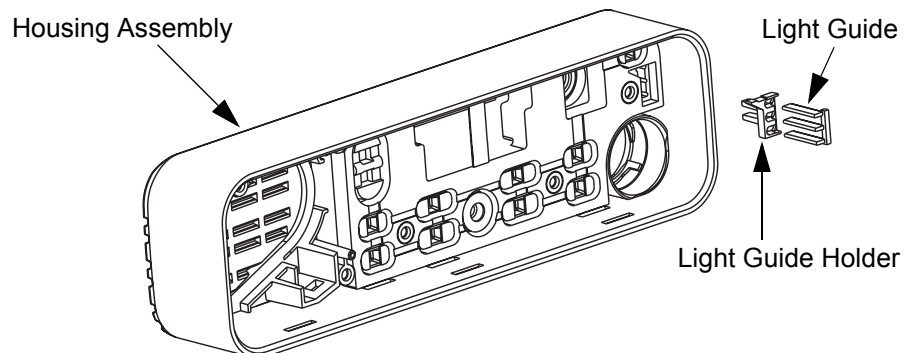

Figure 5-23 Light Guide Assembly
3. Assemble the light guide and light guide holder into the keypad slot as shown in Figure 5-23.